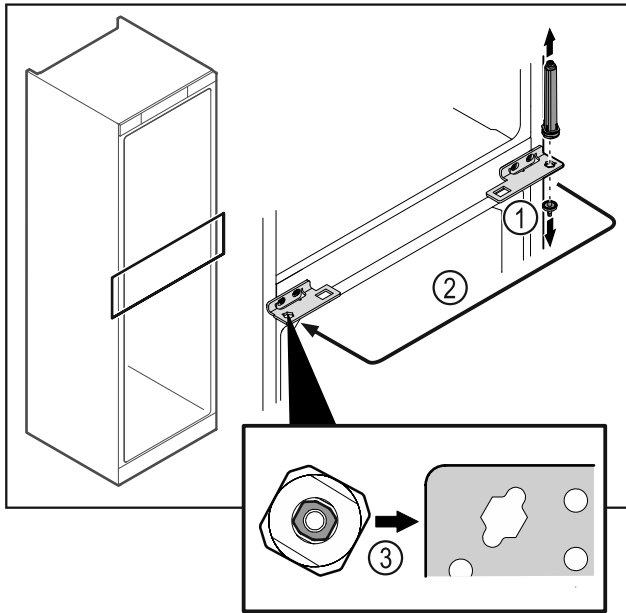

Fig. 39
- ▶ Unscrew the hinge pin Fig. 39 (1).
- ▶ Move the door closing system Fig. 39 (2).
- ▶ When inserting, make sure that the door closing system Fig. 39 (3) is correctly aligned.